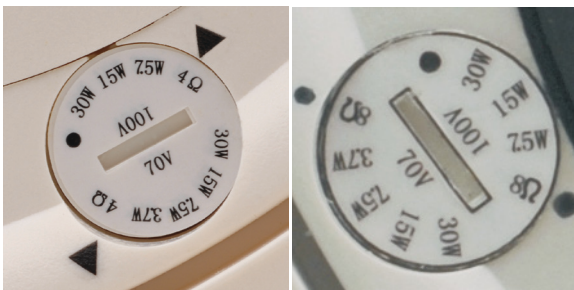

Figure 7: Adjust Tap Selector (for SPK-C411 and SPK-C412, Respectively)
10. Adjust each speaker to the appropriate tap setting before installing the grille (see Figure 7).